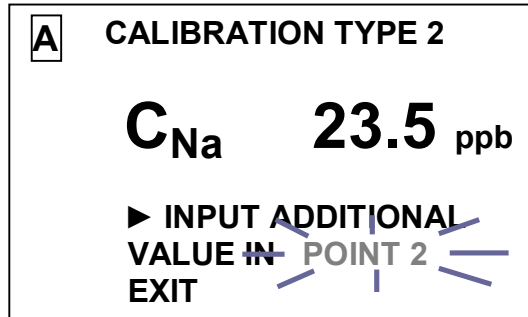

Fig. 2.31
23 When calibration solution in the vessel is almost exhausted and the analyzer readings do not rise, press "menu **enter**" button, and the display shown in Fig. 2.31 shall come up.
- 28 Enter  $C_{Na}^{cal1}$  value calculated from the formula on the display as shown in Fig. 2.31.
- 32 If value entered is wrong, pointer may be moved to **BACK** line and the analyzer display shown in Fig. 2.31 shall come up. Calculated values